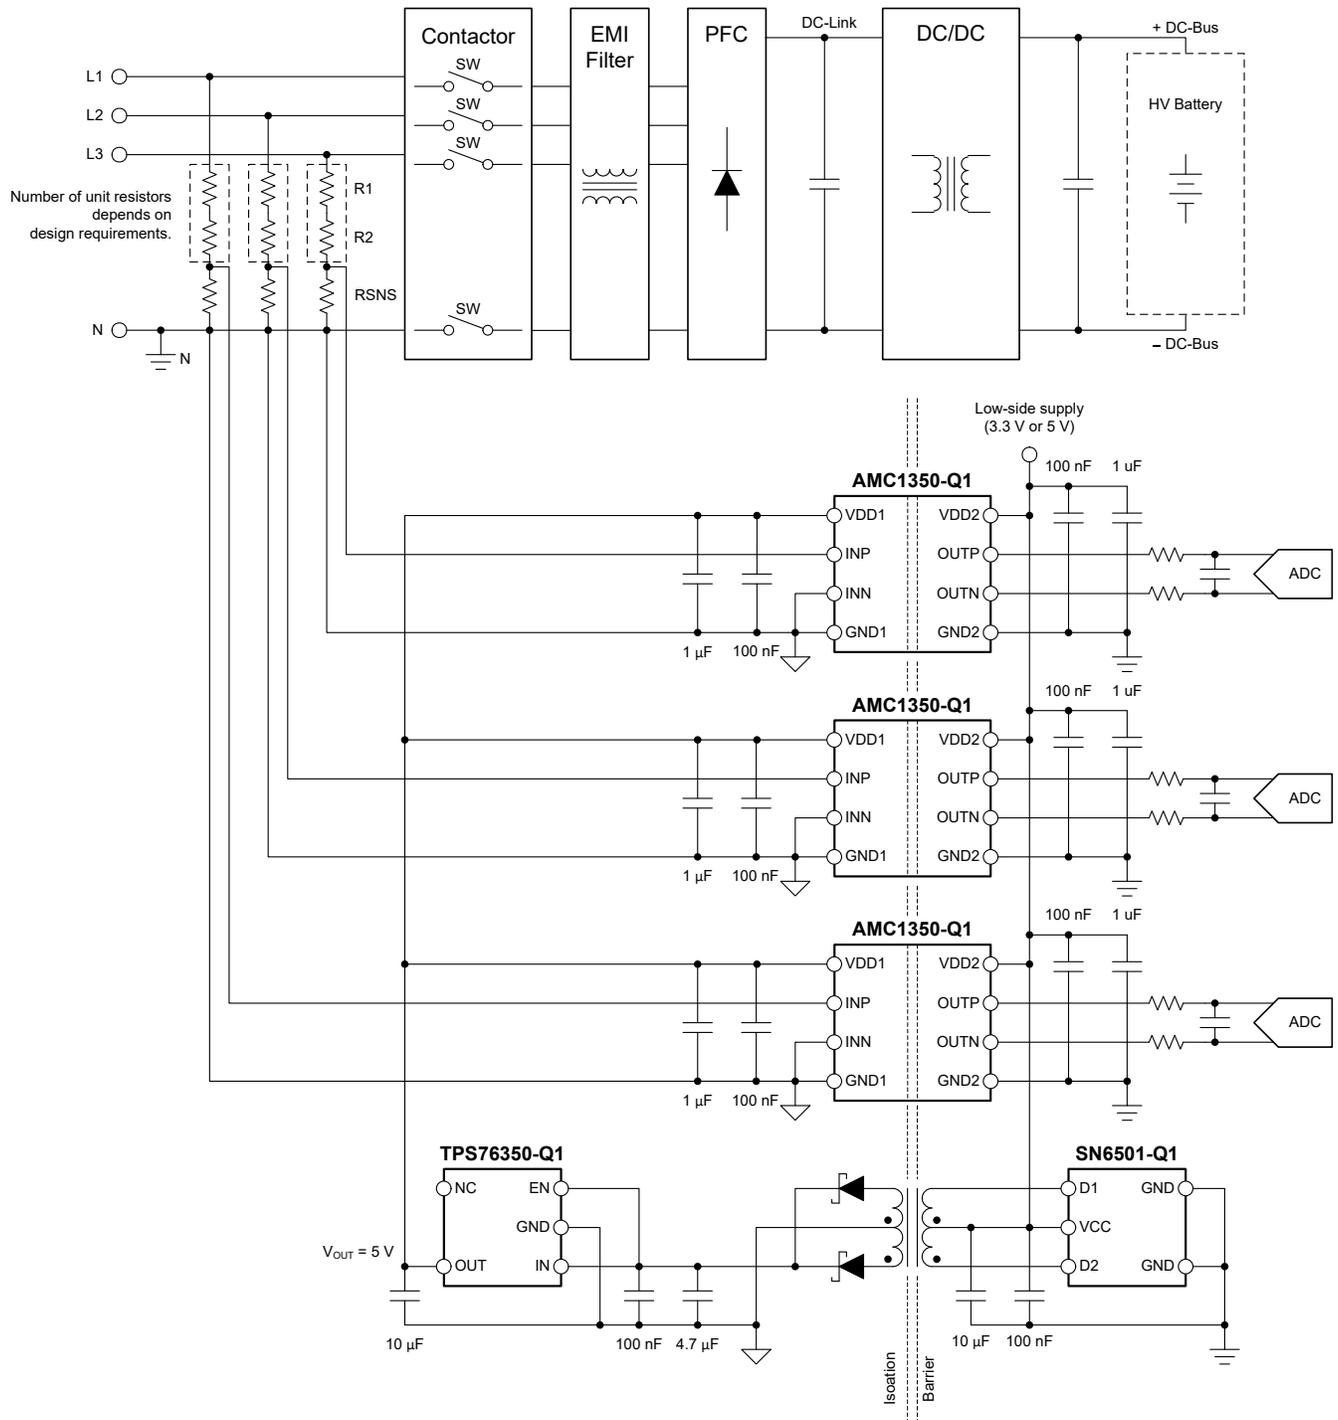

图 8-1. Using the AMC1350-Q1 for AC Line-Voltage Sensing in an OBC Application
**图 8-1** illustrates a simplified schematic of an onboard charger (OBC) application that uses three AMC1350-Q1 devices to measure the AC line voltage on each phase of a three-phase system. The AC line voltage is divided down to an approximate $\pm 5\text{-V}$ level across the bottom resistor (RSNS) of a high-impedance resistive divider that is sensed by the AMC1350-Q1. The output of the AMC1350-Q1 is a differential analog output voltage proportional to the input voltage but is galvanically isolated from the high-side by a reinforced isolation barrier. A common high-side power supply (VDD1) for all three AMC1350-Q1 devices is generated from the low-side supply (VDD2) of the system by an isolated DC/DC converter circuit. A low-cost solution is based on the push-pull driver SN6501-Q1 and a transformer that supports the desired isolation voltage ratings.
The 100-µA, cross-current requirement at peak input voltage (360 V) determines that the total impedance of the resistive divider is 3.6 MΩ. The impedance of the resistive divider is dominated by the top resistors (shown exemplarily as R1 and R2 in 图 8-1) and the voltage drop across RSNS can be neglected for a short time. The maximum allowed voltage drop per unit resistor is specified as 75 V; therefore, the total minimum number of unit resistors in the top portion of the resistive divider is 360 V / 75 V = 5. The calculated unit value is 3.6 MΩ / 5 = 720 kΩ and the next closest value from the E96 series is 715 kΩ.